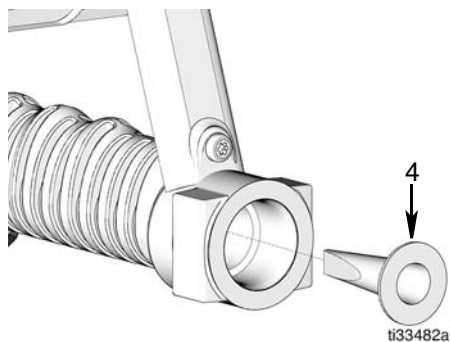

FIG. 15
5. Remove mesh strainer (4) from inlet (FIG. 15).